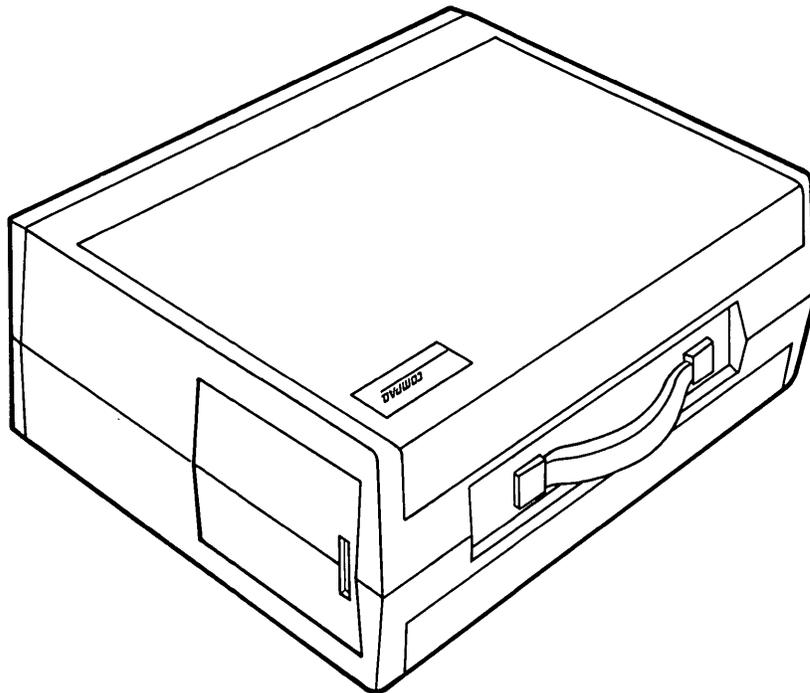

Figure 7-17. Computer On Work Surface.
- 1 Place the computer on a level surface, such as a table or workbench with the handle assembly facing you (see Figure 7-17).